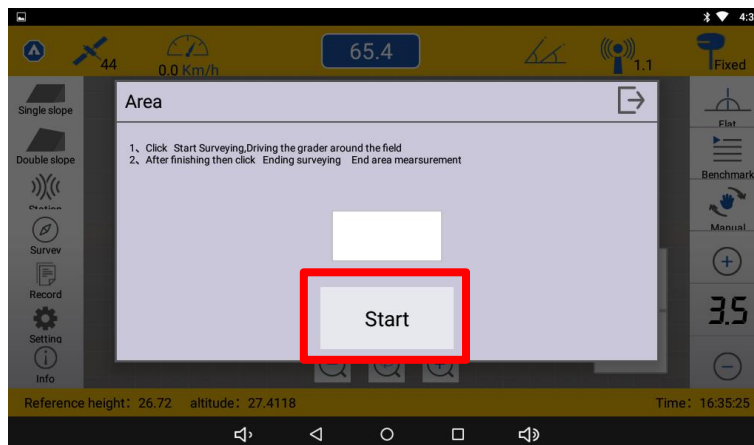

Figure 30
Step2. Drive the grader around the work site (the GNSS antenna is the positioning point, and the satellite antenna needs to be placed at the boundary of the ground during the test) and click the Start button. (Figure 30)